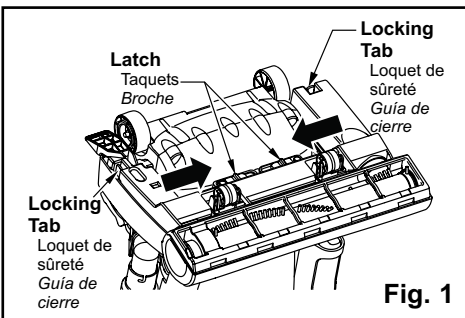

Fig. 1
- **Release lower plate by pressing two (2) latches and two (2) locking tabs inward as shown. (Fig. 1)**